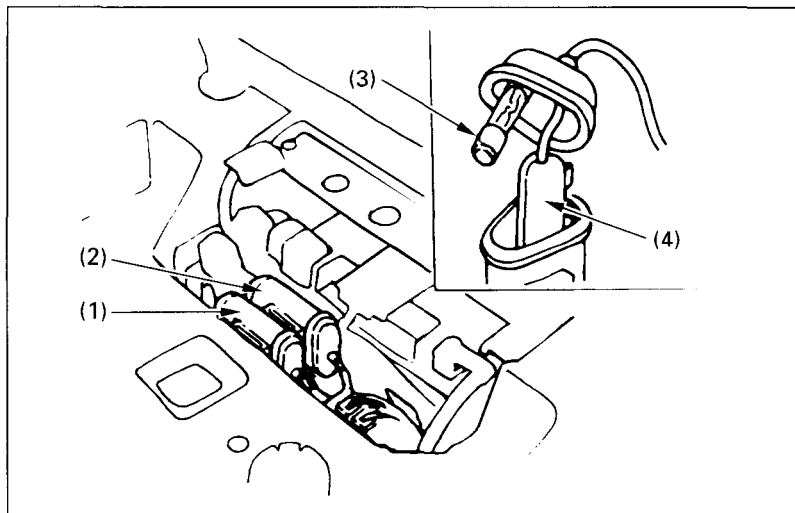

Fig. 4-21 (1) Main fuse (Red wire)
As illustrated in Fig. 4-21, the main fuse (1), the sub fuse (2) and the spare fuse (3) are located in the battery compartment. (The main fuse is connected to the red wire.)